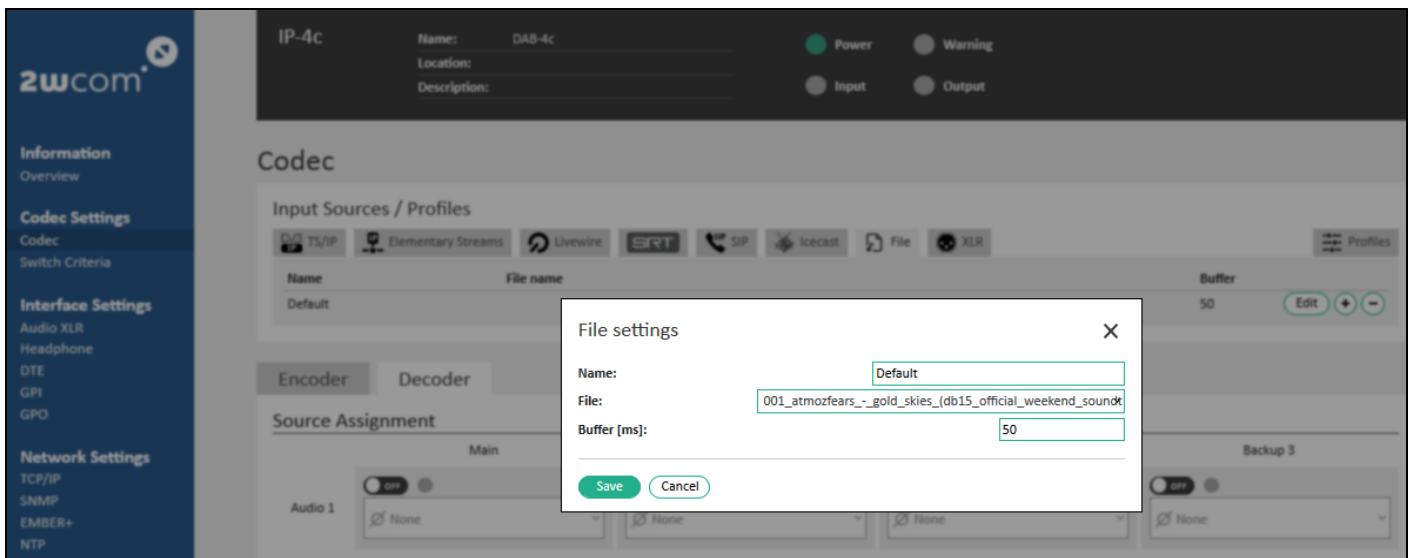

Figure 20: Input Source for coder – Audio files from internal storage
3. Enter the following data in the fields of the configuration of the input source “File” in the “Edit” menu (see Figure 20 on page 38):